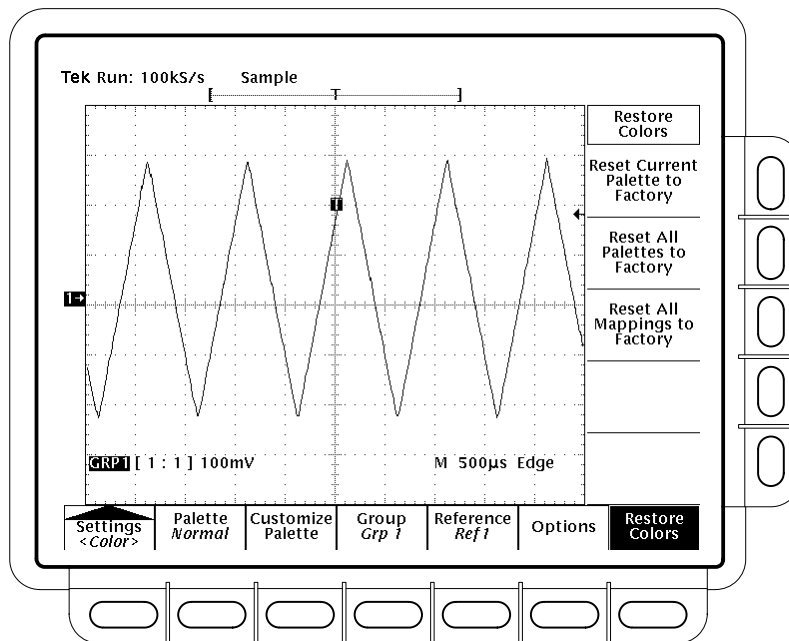

Figure 3-23: Display Menu — Restore Colors
1. Press **Restore Colors** in the main menu. (See Figure 3-23.)